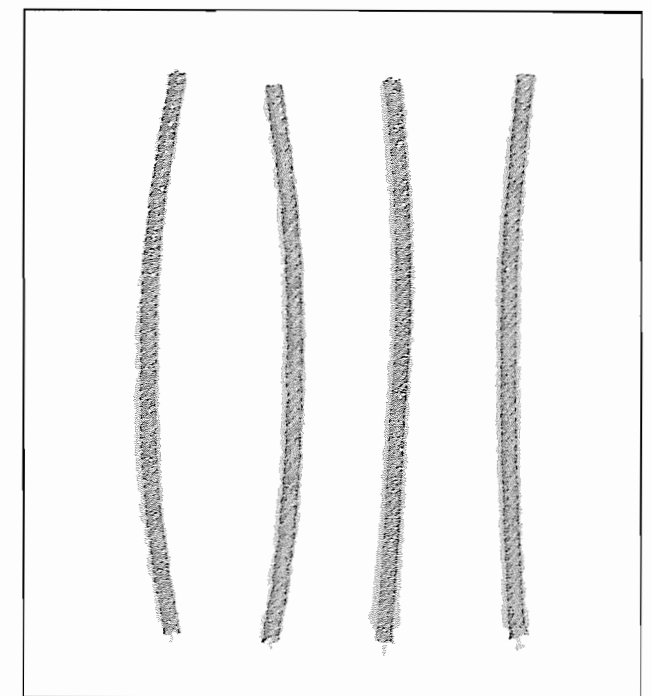

Figure 6-26. Each Giant Destroyer gopher gasser comes with a piece of green Bickford fuse.
1. Open the package, and remove the 4 gopher gassers. Packed among them, you'll find 4 pieces of green "Bickford" fuse (Figure 6-26), which you can save and use for the **time delay burn rate test** (page 293). With a single edge razor blade or an Xacto knife, slit the cardboard tubes lengthwise, and peel them away from the gray composition inside (Figures 6-27 and 6-28).